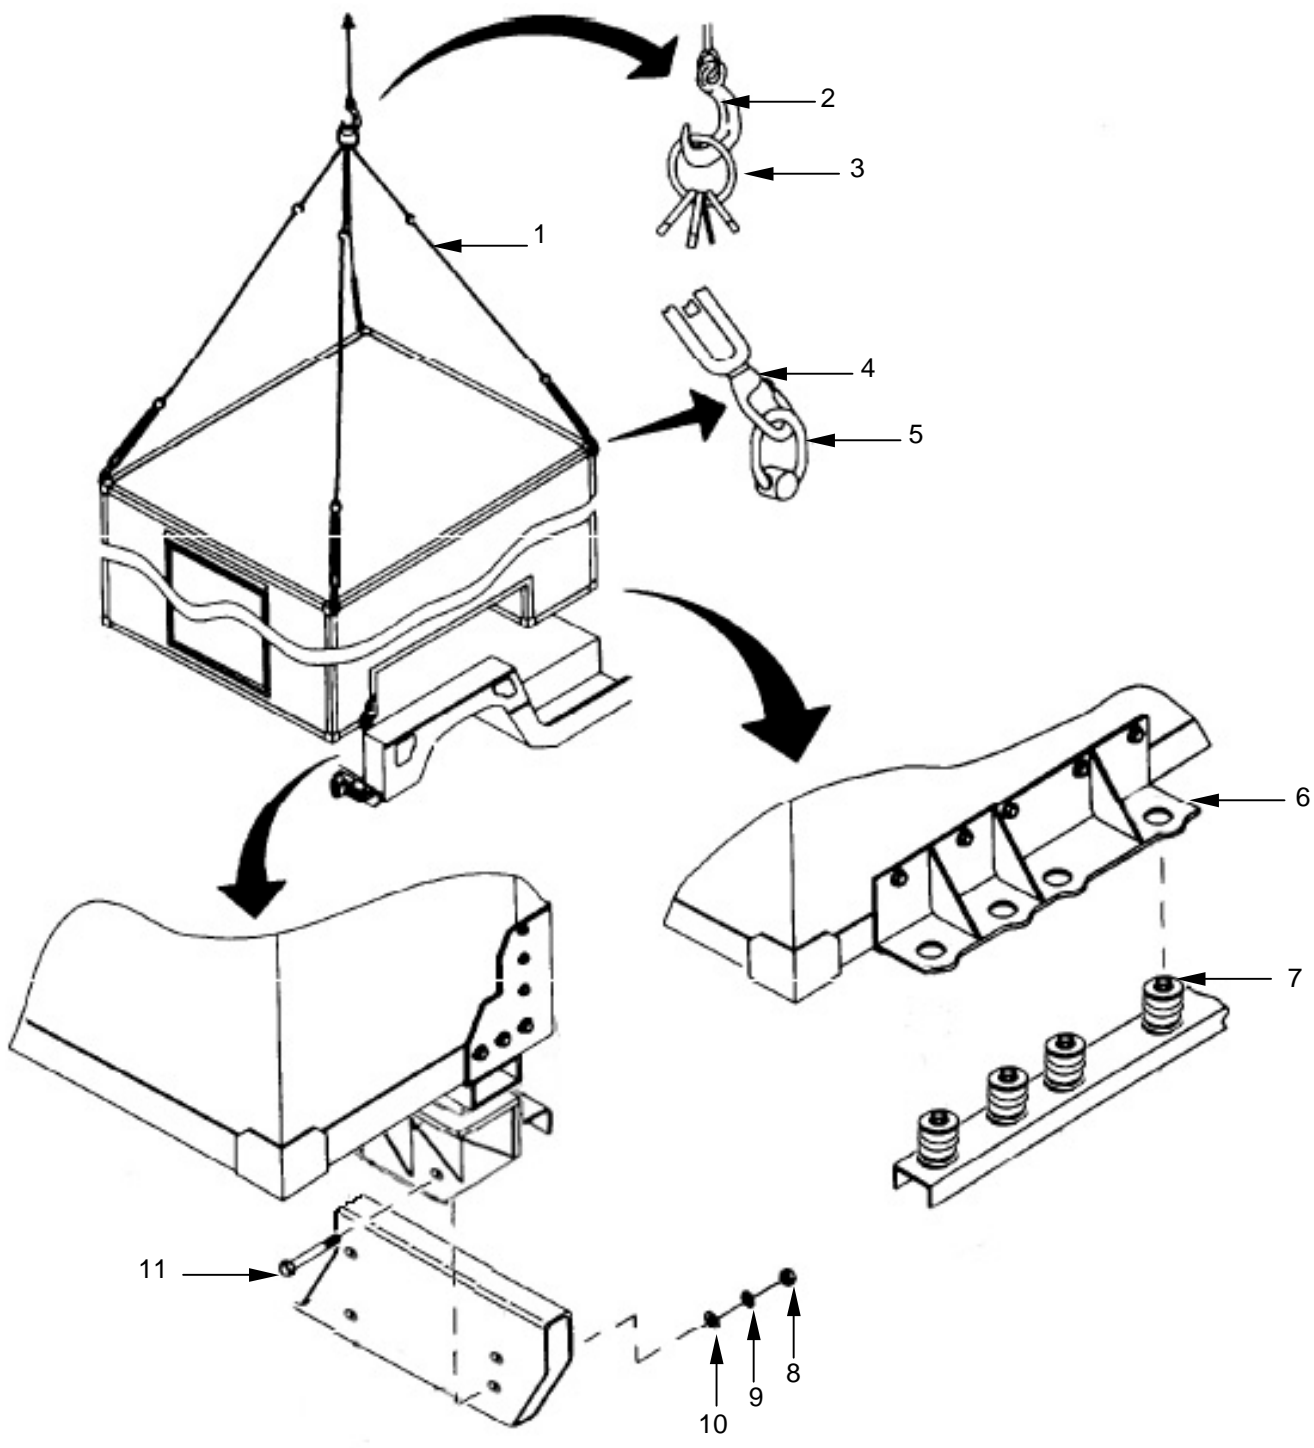

Figure 4-17. Mounting the Shelter
(1) Attach certified sling assembly ((1)-Figure 4-17 next page) to all four lifting rings (5) on shelter using the four sling hooks (4) at opposite ends of cables from sling assembly lifting ring (3).
(2) Insert lifting hook (2) of the lifting device into sling assembly lifting ring (3).
(3) Carefully lift shelter with lifting device, then set shelter down onto the vehicle so the front mounting bracket (6) is just resting on the previously assembled isolators (7). Use a hammer to tap the isolator assemblies into the bracket.
(4) Remove old bolts, and flat washers (10) lock washers (9), and nuts (8) securing rear bumper to vehicle frame. Retain nuts, lock washers, and flat washers.
(5) Slowly lower the rear of the shelter so that the rear mounting bracket (12) fits over the vehicle bumper (11). When the bracket and bumper are properly aligned, insert two new, longer screws (13), two retained screws, retained flat washers (10), retained lock washers (9), and retained nuts (8).
(6) Repeat step 5 for the other side.